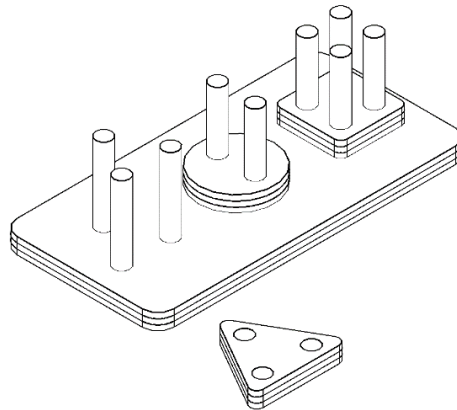

Figure 6
15. In the kids' play area, there are a number of embedded games. For example, there is a shape sorter game as you can see in Figure 6 below.